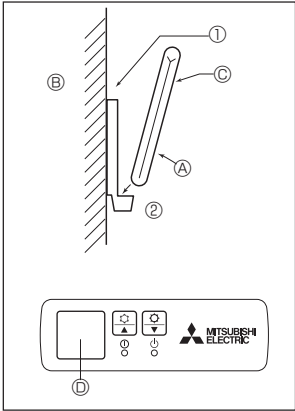

Fig. 6-2
2) Installation method (Fig. 6-2)
- ① Attach the remote controller holder to the desired location using 2 tapping screws.
- ② Place the lower end of the controller into the holder.